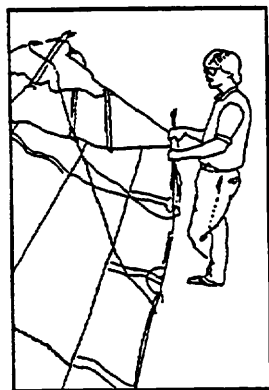

Figure 85
9) Fold the wings in the rest of the way and pull the sail over the top of the leading edges. Roll the straight battens and the washout tips in the sail, and tie the sail with the velcros provided. We recommend that you roll and tie each side of the sail separately. (Figure 85, 86)